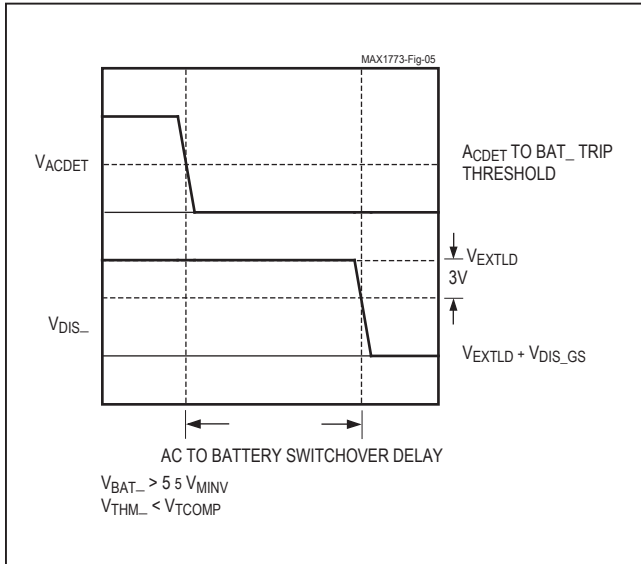

Figure 5. AC to Battery Switchover Delay
**Note 9:** AC to Battery Switchover Delay begins when  $V_{ACDET}$  falls below its threshold and ends when both  $V_{COM\_}$  and  $V_{DIS\_}$  of the battery being switched to have fallen 3V below their sources (Figure 5).